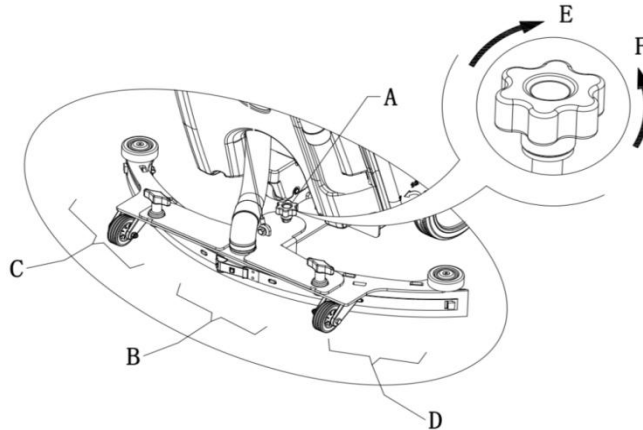

Figure 6
1. Install the squeegee and screw up the nut (16), then connect the vacuum hose (11) to the squeegee.
2. Adjust the squeegee by squeegee adjusting handle (A, Figure 6).
- a) If there is gap between the ground and middle section of rear squeegee blade (B), adjust the knob (A) in counterclockwise direction (F) until all section of rear squeegee blade good contact with ground, the front blade touch the ground slightly.
- b) If there is gap between the ground and both end section of rear blade(C and D), adjust the knob (A) in clockwise direction (E) until all section of rear blade good contact with the ground, the front blade touch the ground slightly.